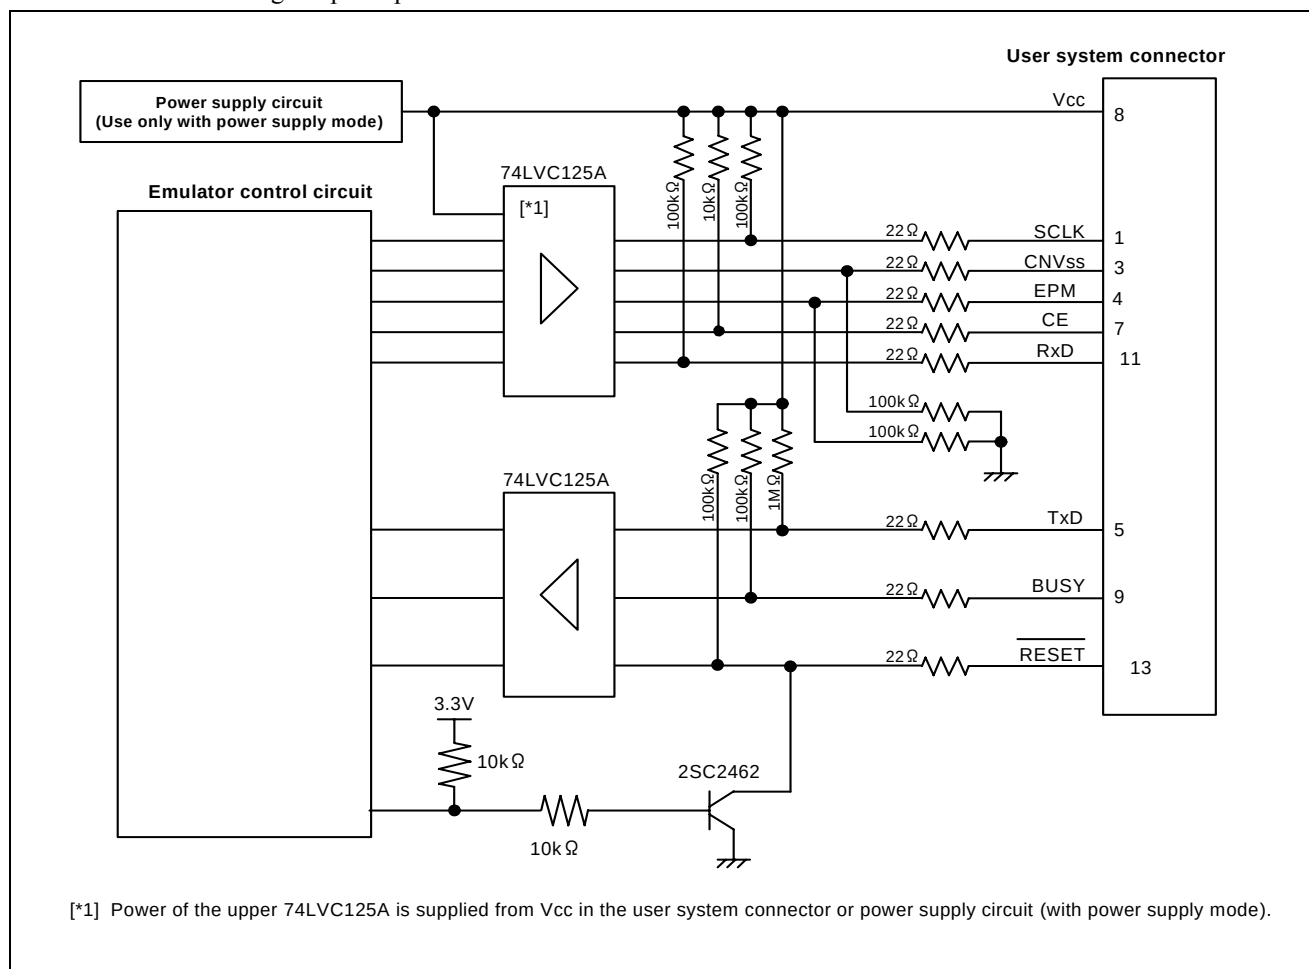

Figure 4.12 Interface Circuit in the Emulator (Reference)
10. Figure 4.12 shows the interface circuit in the E8 emulator. Use this figure as a reference when determining the pull-up resistance value.